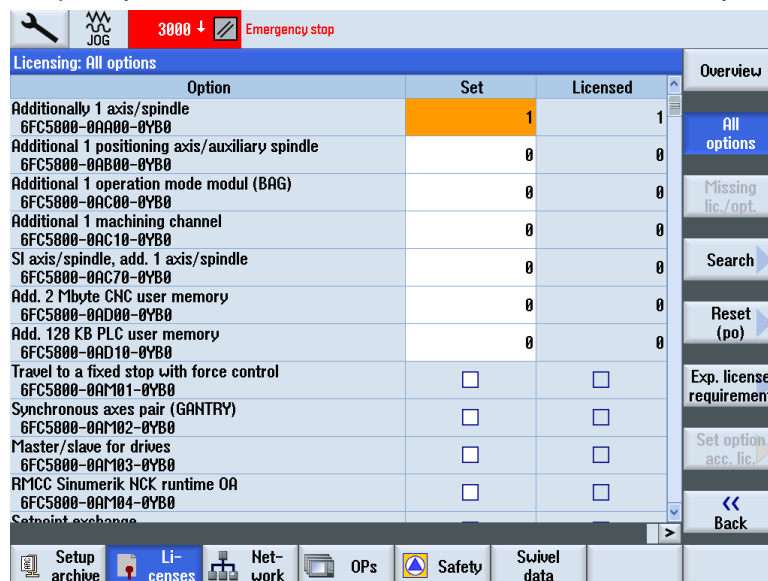

Figure 4
11. Search for the particular option you want to activate. Set the box with the select key. See figure 4.